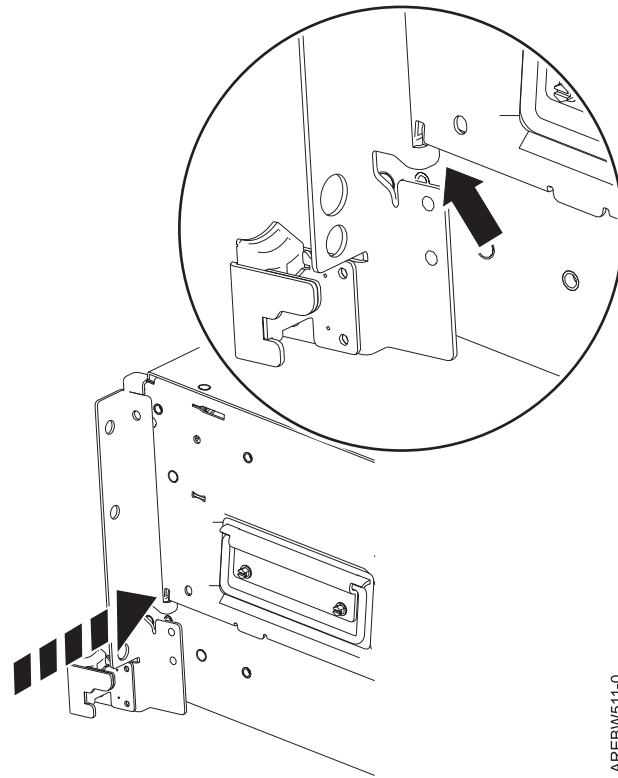

Figure 25. Align the bracket with the slot on the side of the server
- b. Align the bracket with the slot on the side of the server as shown in Figure 25 on page 33.